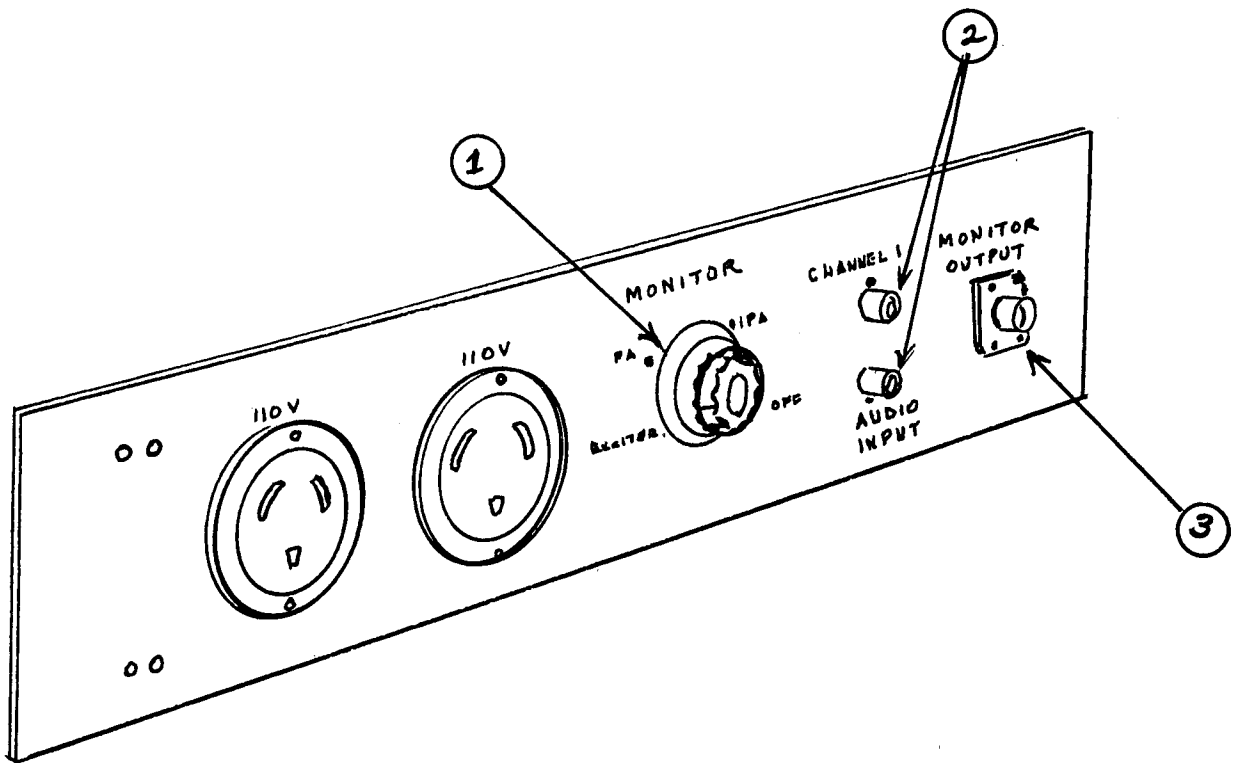

Figure 3. Power Panel Assembly, Model APP
Schematic diagram figure 3 should be used in conjunction with the schematic diagrams in the associated system and modular-unit manuals as an aid for tracing wiring.
Operating procedures for the APP consist only of using the MONITOR switch (1, figure 3) to channel one of the transmitter r-f frequencies to an external piece of test equipment. The following two-tone test is a typical operating procedure for the APP.
CHANNEL 1 AUDIO INPUT jack (2, figure 3).
(2) Tune transmitter to carrier frequency.
(3) Set exciter controls as required for Channel 1 Audio Input.
(4) Set MONITOR switch of APP at PA, and connect r-f cable between MONITOR OUTPUT jack (3, figure 3) and spectrum analyzer or oscilloscope.
(5) Perform two-tone test as outlined in Supplementary Data section of appropriate operator's manual.